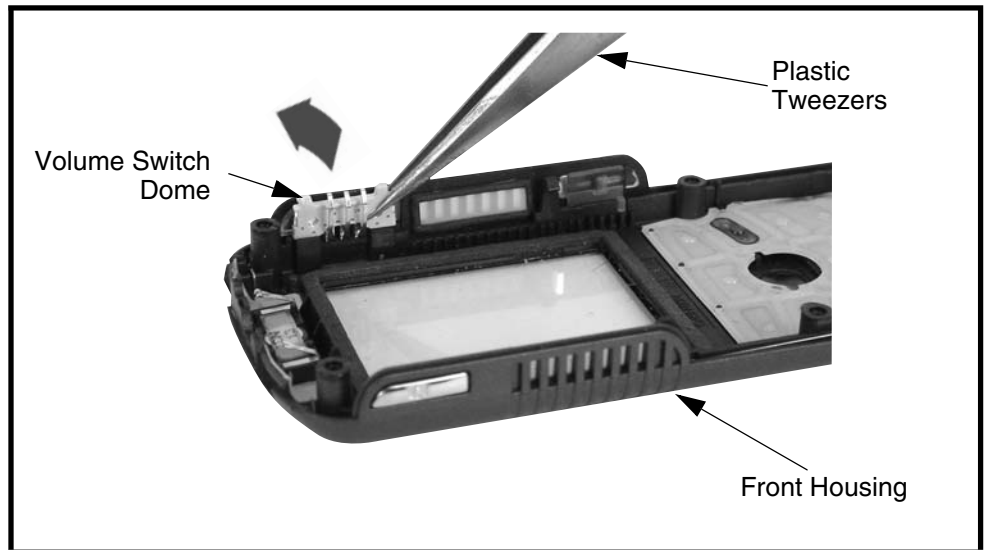

Figure 13. Removing and Replacing the Volume Switch Dome
2. Lift the switch domes out from the front housing as shown in Figure 13.